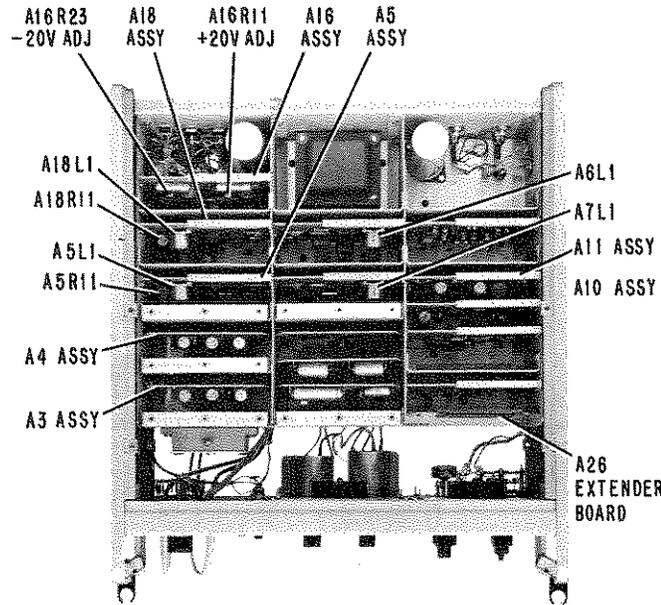

Figure 2A. Adjustment Locations
- a. Remove top cover and refer to Figure 2A.
Refer to Figure 2A for adjustment and assembly location.